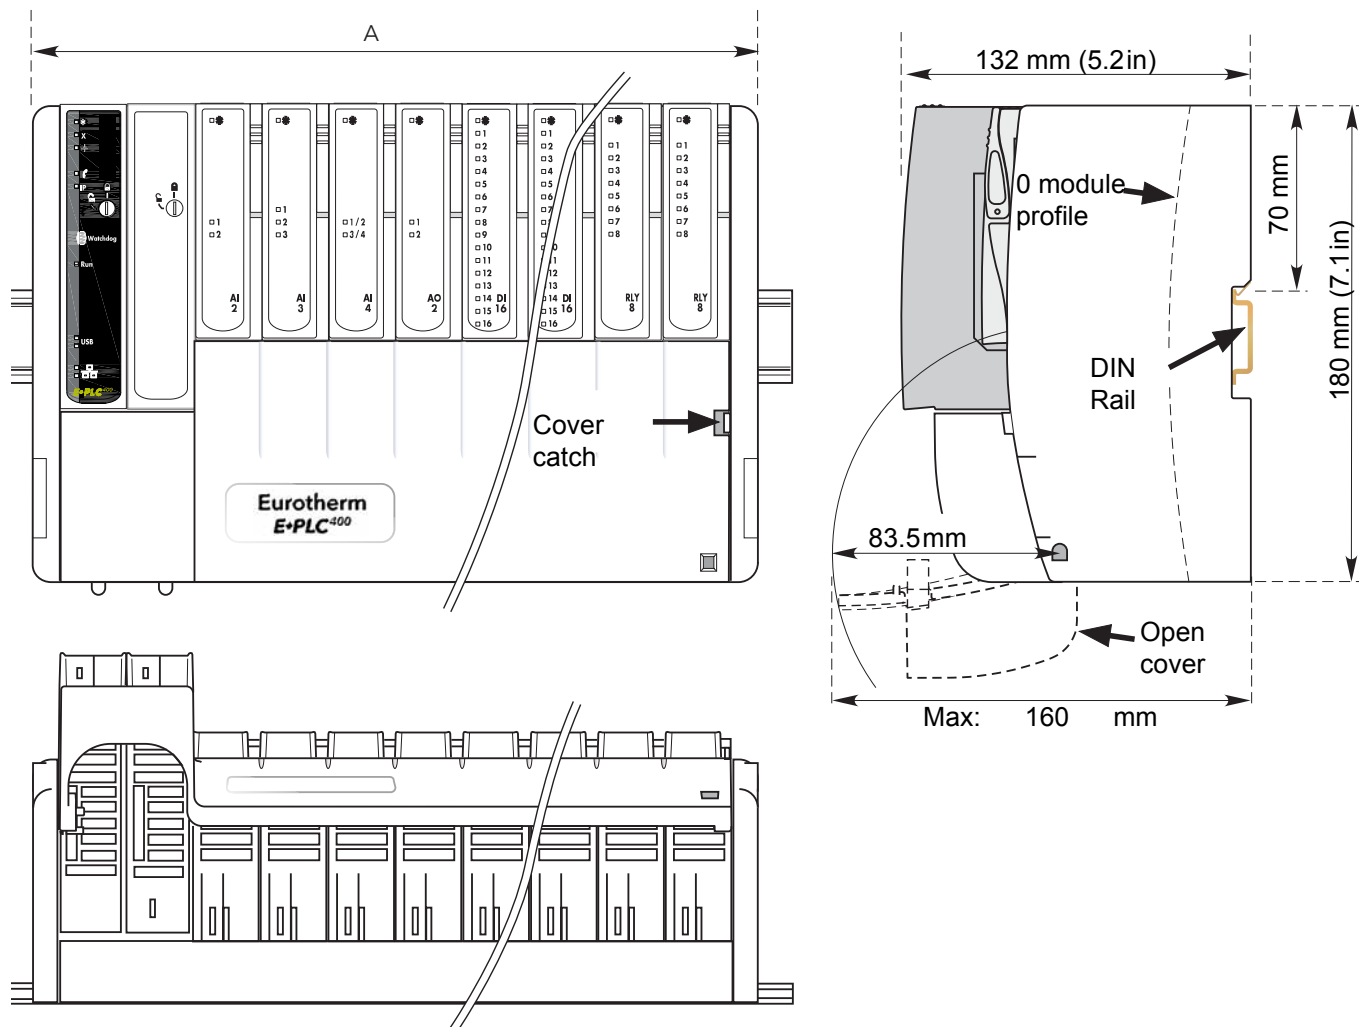
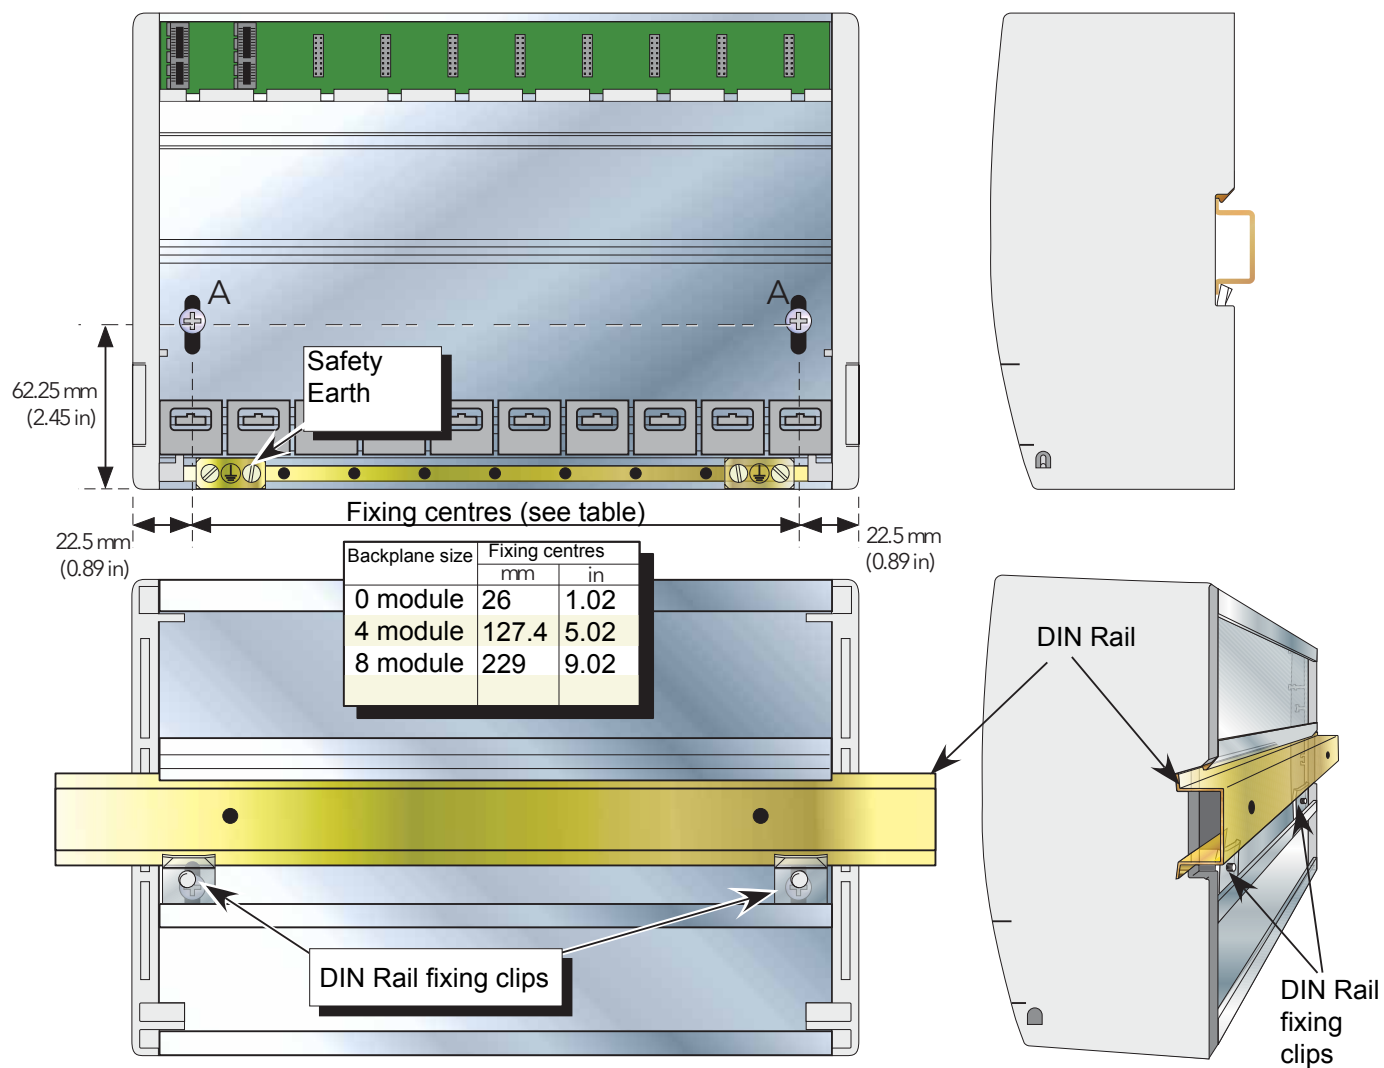
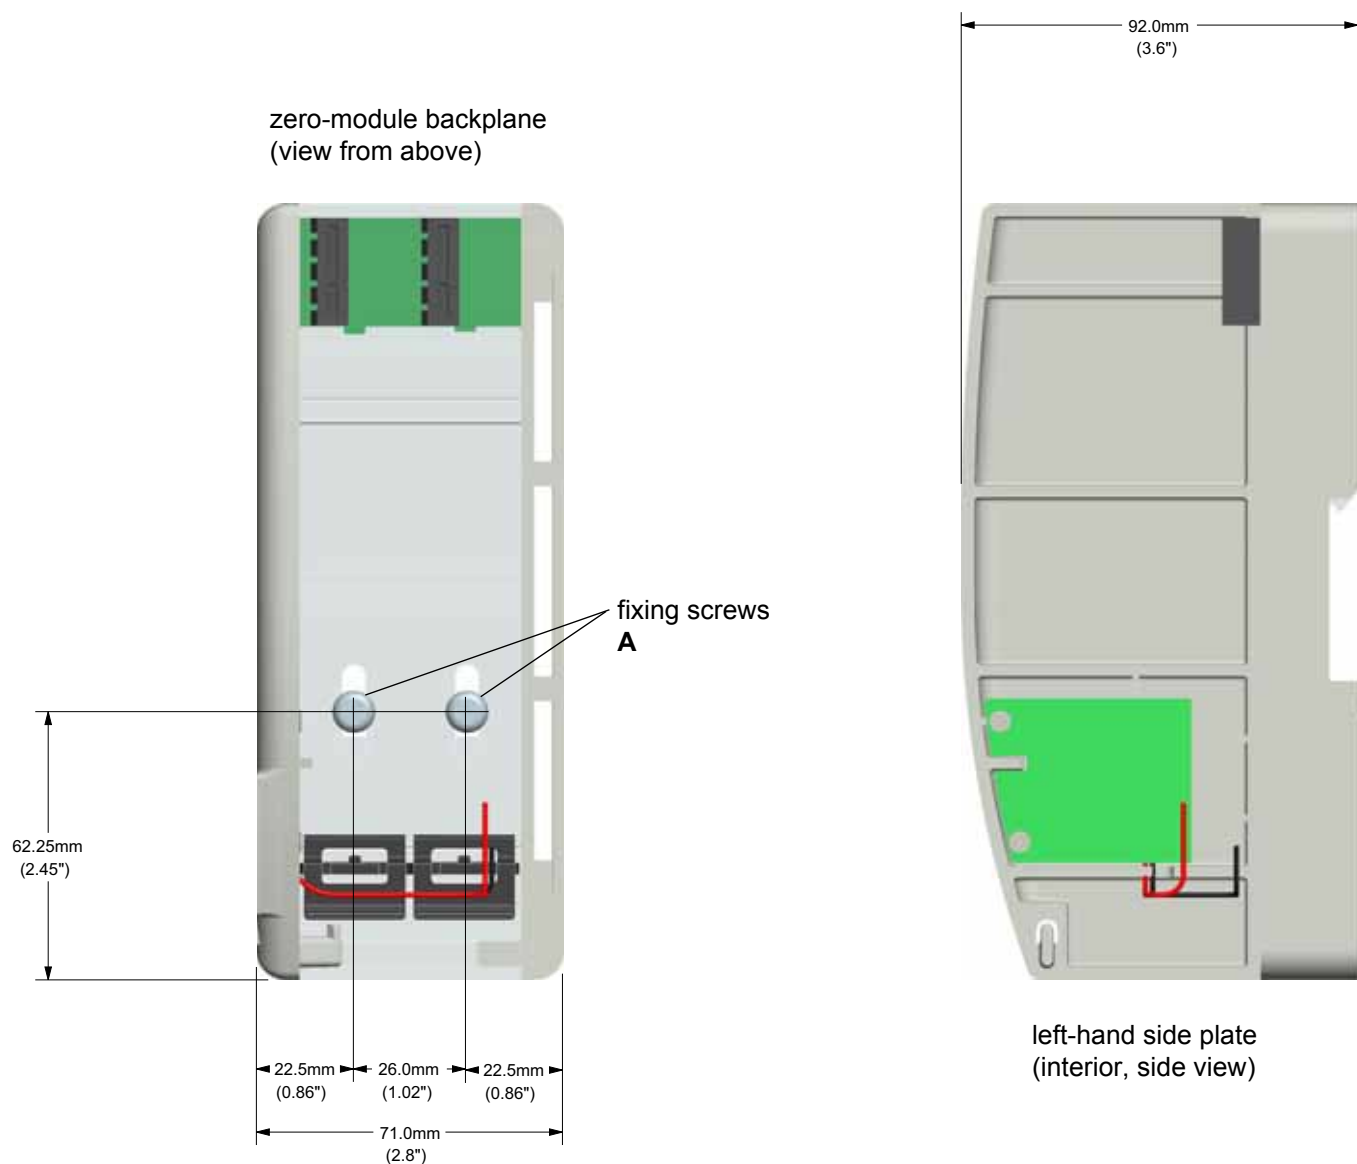

Figure 1: Overall dimensions
Figure 2: Fixing details (including safety earth connection)
Figure 3: Zero-module backplane dimensions
Figure 1 and Table 2 give dimensional details for the E+PLC400; Figure 2 gives fixing details. Figure 3 shows details for instruments with a zero-module backplane.
Backplane size	Length of 'A' (figure 1)
2. Loosen the screws ('A' in Figure 2 and Figure 3) in the backplane, two or three turns, and allow them, and the associated fixing clips to slide to the bottom of the screw slot.
3. Lower the backplane on to the DIN rail such that the top edge of the rail fits into the slot on the underside of the support bar (see Figure 2 and Figure 3).
4. Slide the screws (A) and associated clips as far as they will go towards the top of the screw slots, ensuring that the top of each fixing clip locates behind the bottom edge of the DIN rail.
1. Remove the screws ('A' in Figure 2 and Figure 3) and associated fixing clips.
Figure 2 and associated text, above, gives safety earth details.